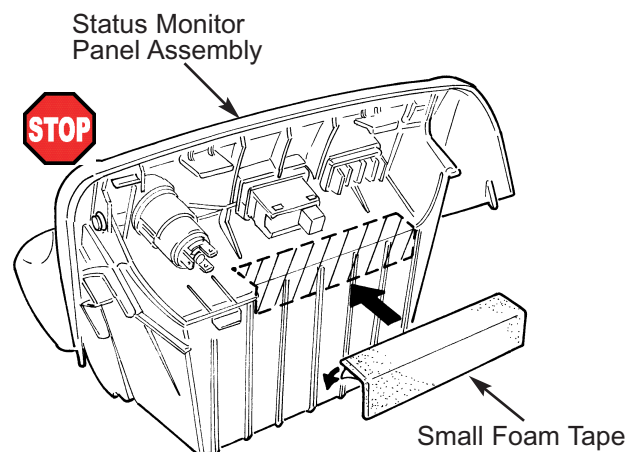

Fig. I6
6. Attach the back side of the status monitor panel assembly with one small strip of foam tape. (Fig. I6)